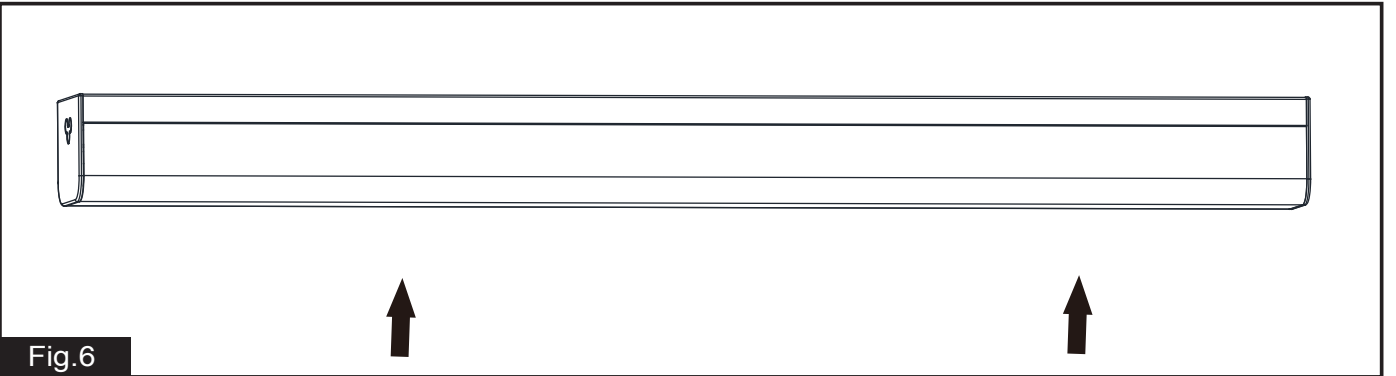

Fig.6
9. Attach the PC diffuser back to fixture plate, withhold one side of PC diffuser into fixture plate, then squeeze and push the other side of PC diffuser to fixture plate. (See Fig.6,7)